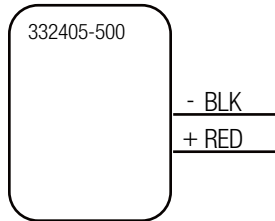

Figure 1
**STEP 1** Connect DCS 4-20mA wiring to provided flying leads as shown in Figure 1